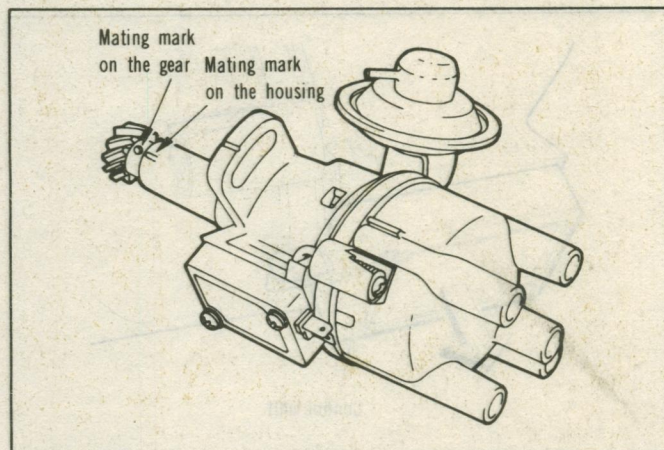

Fig. 43 Installing Distributor (1)
(1) Turn engine crankshaft until the position in No.1 cylinder is at top dead center on compression stroke.
(2) Align the mating mark (line) on the distributor housing with the mating mark (punch) on the distributor driven gear. (Fig. 43)